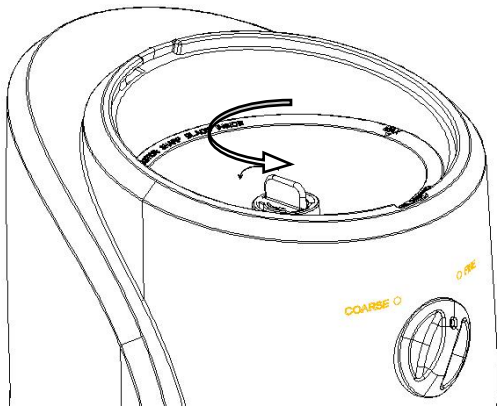

Figure 2
3. Twist the shaft in direction of arrow to lock into position. (Figure 2)